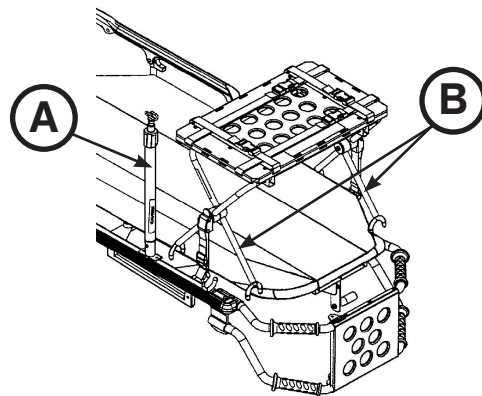

Figure 38
3. If the cot is equipped with an I.V. pole, raise the I.V. pole (A) to the up position as shown in Figure 38.
4. Place the defibrillator platform on the cot frame as shown in Figure 38. Position the inside legs (B) of the defibrillator platform toward the head end of the cot to properly fit the defibrillator platform on the cot frame.